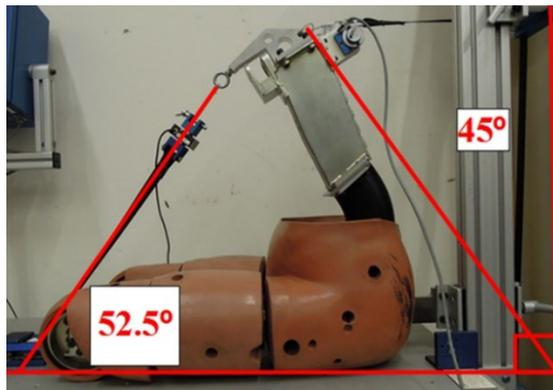

Figure 7 - Pull down angle 52.5 degrees when spine is 45 degrees
- g. Pelvic adapter: The type of pelvic adapter is not critical, as long as it securely fastens to the pelvic instrumentation cover mounting holes and holds the entire assembly firmly with the back of the instrumentation cover mounting surface vertical (± 1 degree) and maintains the pull relationships found in Figure 7.